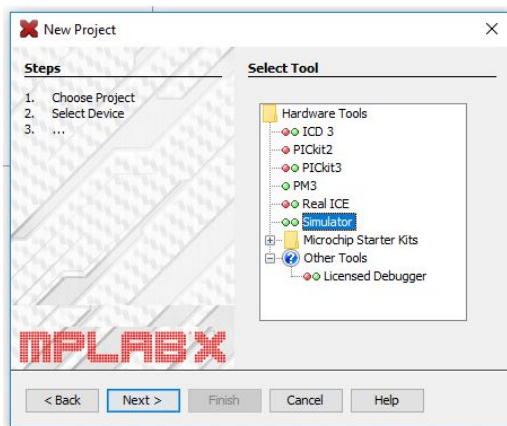

Figura 9
Step 4_ *Select Tool* (figura 9)